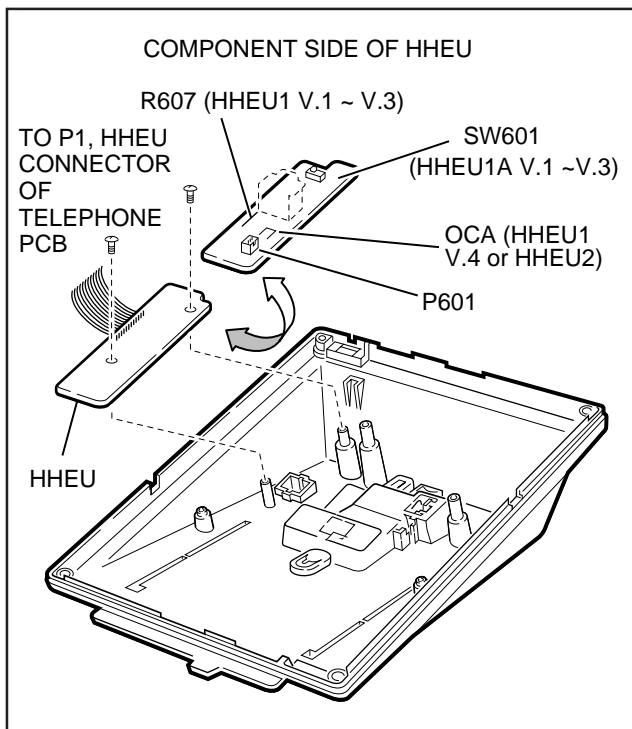

FIGURE 6-15
- 3) If using a **V.3** or earlier HHEU1, set the **SW601** switch to the **HEADSET** position for HESB and/or headset connection (Figure 6-15). This switch is not on either the **V.4** HHEU1 or the HHEU2, because the operation is automatic with these subassemblies.
- 5A) For the **V.3** or earlier HHEU1: If only the headset is connected to the HHEU, cut both sides of the **R607** resistor on the HHEU (Figure 6-15) and then remove the resistor to eliminate electrical contact.
- 5B) For the **V.4** HHEU1 or the HHEU2: If only the headset is connected to the HHEU, cut the **OCA** strap (Figure 6-15).
- 6) Position the HHEU subassembly on the stand-offs inside the base (Figure 6-15), and secure with the two provided screws.